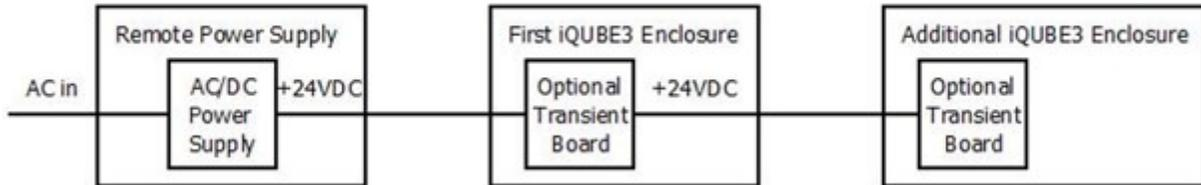

Figure 1-4. iQUBE3 with External AC/DC Power Supply
- External 115/230 VAC power supply in an fiberglass reinforced plastic (FRP) enclosure (Figure 1-4)